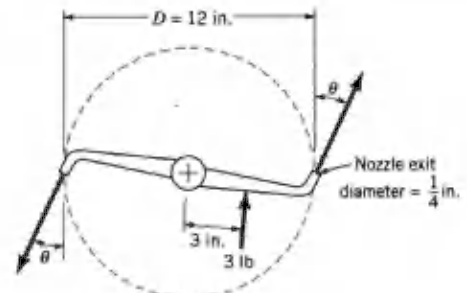

FIGURE P5.13R
5.13R (Moment-of-momentum) A lawn sprinkler is constructed from pipe with  $\frac{1}{4}$ -in. inside diameter as indicated in Fig. P5.13R. Each arm is 6 in. in length. Water flows through the sprinkler at the rate of 1.5 lb/s. A force of 3 lb positioned halfway along one arm holds the sprinkler stationary. Compute the angle,  $\theta$ , which the exiting water stream makes with the tangential direction. The flow leaves the nozzles in the horizontal plane.